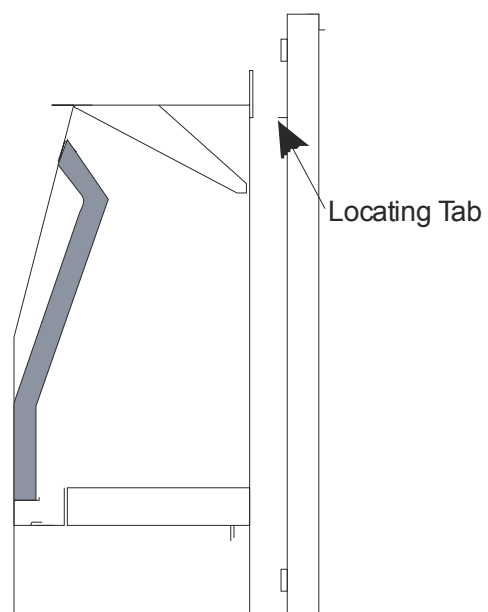

Figure 65
5. Offer the mounting frame up to the appliance opening, taking note of the locating tab projecting to the rear of the mounting frame as shown in **Figure 65**.